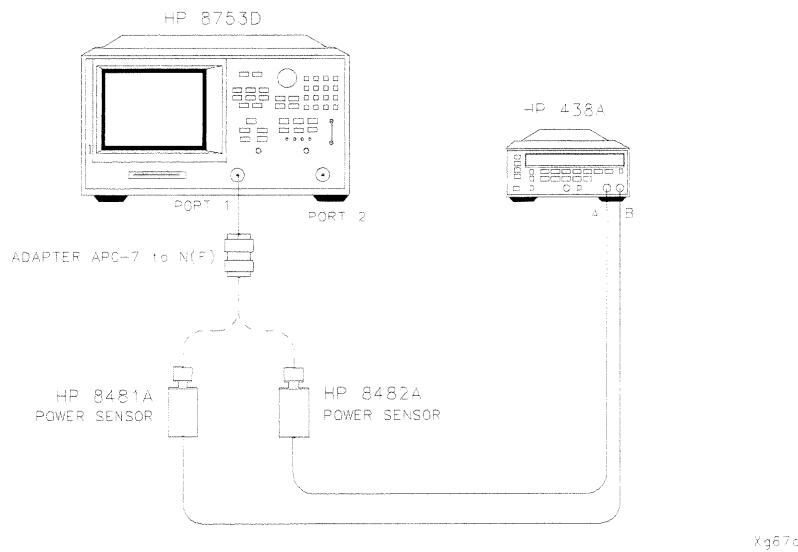

Figure 4-6. Equipment Setup for Source Power Check
1. Connect the equipment as shown in Figure 4-6.